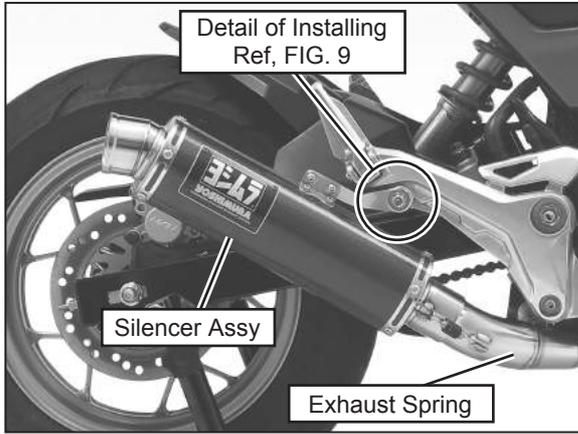

FIG. 7
- 6) Mount Silencer Assy on Tailpipe and install Exhaust Spring on spring hook by using installing tool. (See Fig. 7, 8)
- 7) Mount Silencer Assy to Stock Silencer Bracket with Stock Bolt, 3-Stock Washer and Stock Nut (See Fig. 7 & 9). Tighten bolts by hand only at this stage.